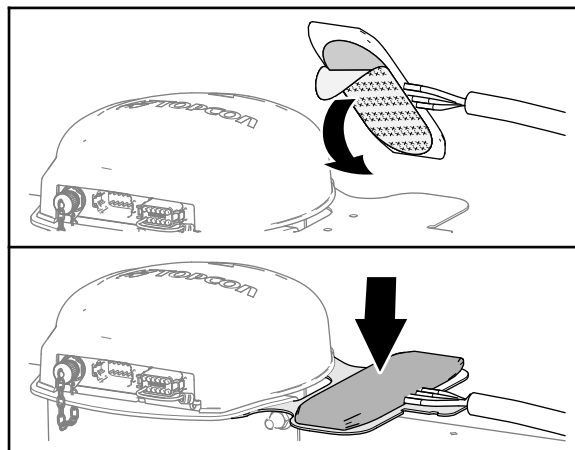

Figure 126
2. Remove the backing from the double sided adhesive liner at the bottom of the modem antenna (Figure 126).
3. Adhere the modem antenna to the top of the modem-antenna bracket as shown in Figure 126.